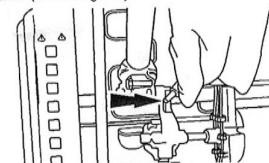

FIGURE 3
- Disengage the motor driveshaft. (Refer to Figure 3).